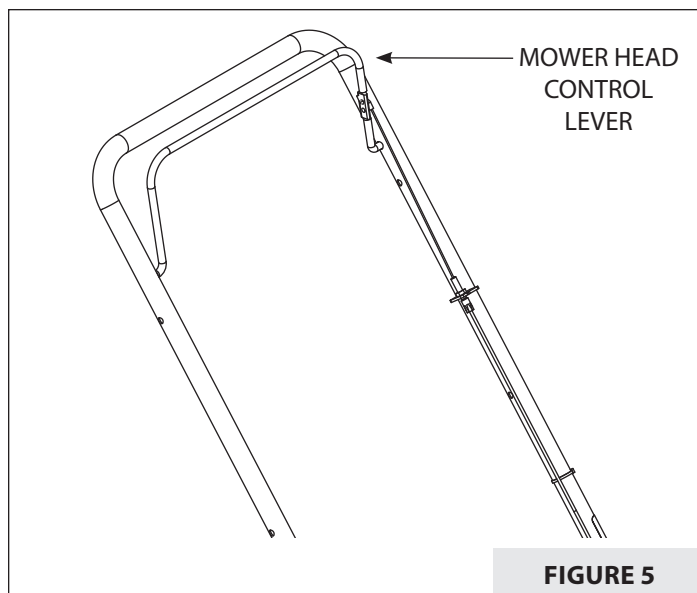

FIGURE 5
1. To engage the mower head, hold the control lever against the handle. **SEE FIGURE 5.**